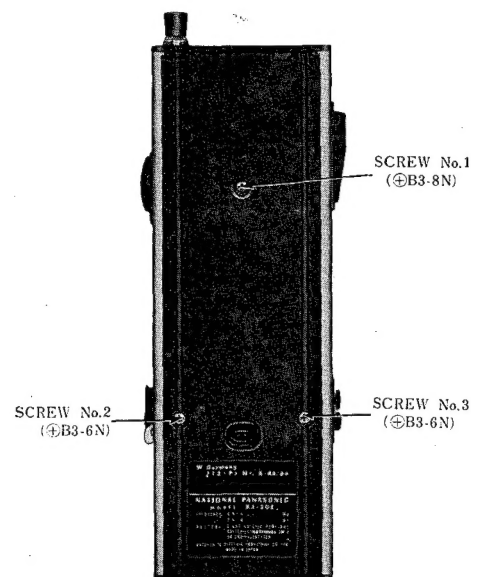

Fig. 2
To Remove Chassis (Refer to Fig. 2, 3 & 4)
3. Remove three (3) cabinet back cover mounting screws, Nos. 1~3, as illustrated in Fig. 2.